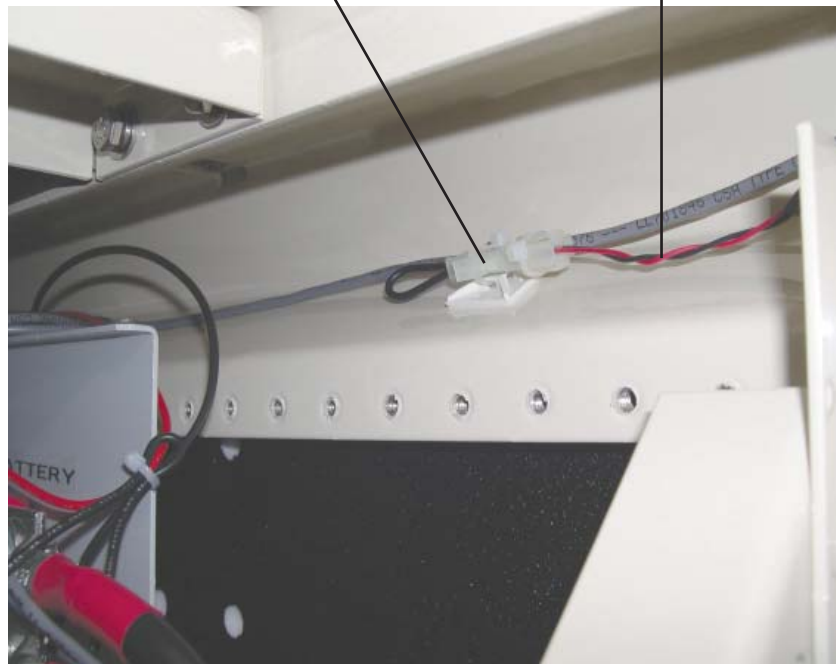

Fig. 3-14, Tamper Switch Shorting Plug
2. Remove the shorting plug and connect the tamper switch jumper to the tamper switch cable from Utility 1 to the Utility 2 tamper circuit cable (see Fig. 3-14).